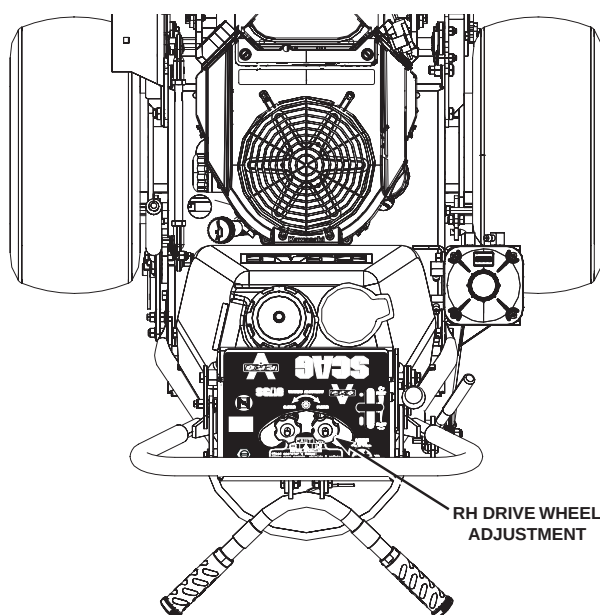

Figure 6-1 RH Drive Wheel Adjustment
4. Adjust the RH wheel by turning the tracking adjustment knob "clockwise" until the RH drive wheel turns in the forward direction. Turn the tracking adjustment knob "counter-clockwise" until the drive wheel stops moving. Turn the tracking adjustment knob an additional 1/2 turn "counter-clockwise". (See Figure 6-1).
- A. Stop the machine and place the speed control lever in the neutral position. Turn the tracking adjustment knob for the RH drive wheel "counter-clockwise". This will cause the control rod to stroke the RH pump less, slowing down the RH wheel. (See Figure 6-1)